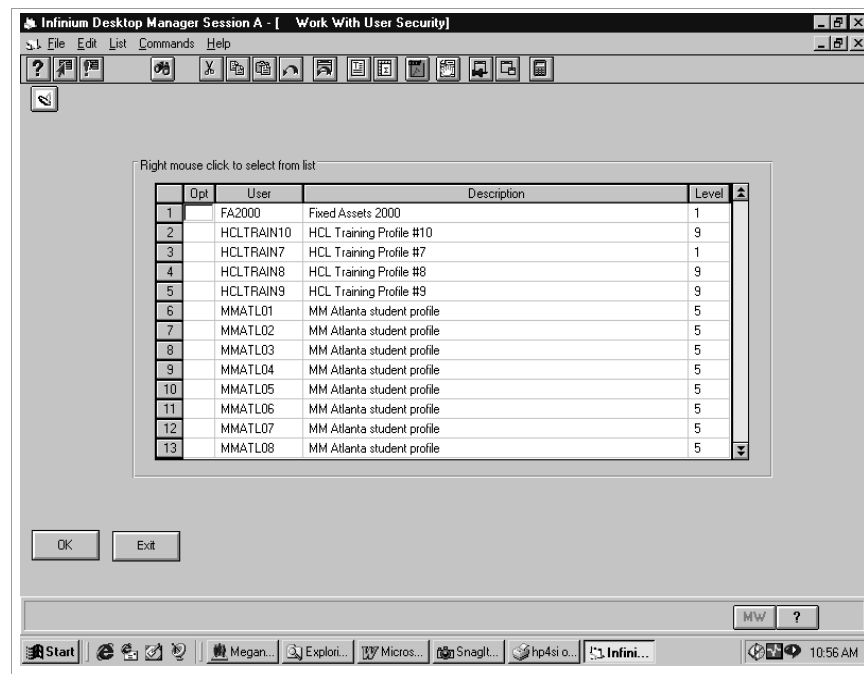

Figure 3-15: Work With User Security screen
- 2 Select *Work with user security* [WWUS]. The system displays the screen shown in Figure 3-15.